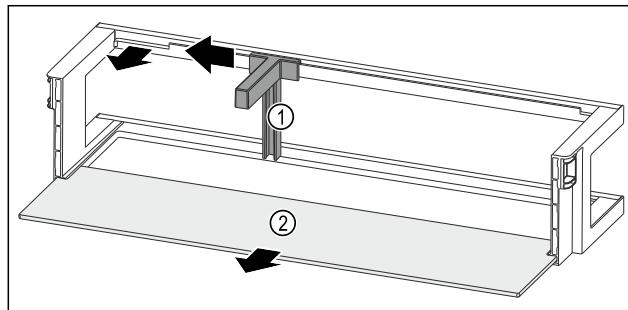

Fig. 111 Door rack with bottle holder and shelf
- ▶ Slide the bottle holder Fig. 111 (1) to the side as far as the recess.
- ▶ Remove the bottle holder Fig. 111 (1).
- ▶ Remove the shelf Fig. 111 (2).